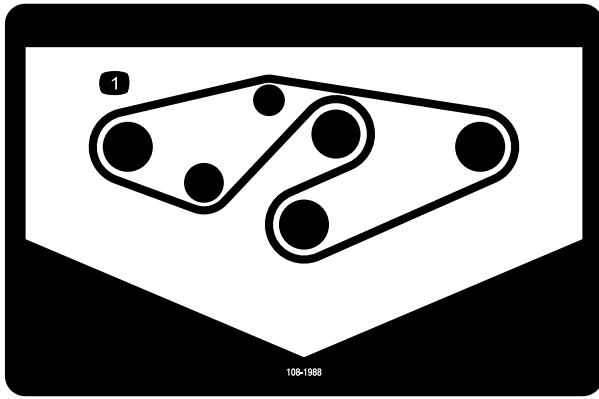

Figure 37
4. Route the new belt around the spindle pulleys and idler pulley assembly as shown in Figure 37.